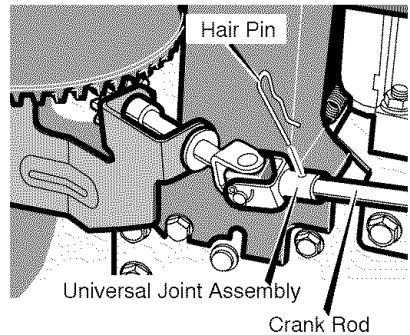

Figure 6
7. Attach the crank rod to the universal joint assembly with the hair pin. See Figure 6.